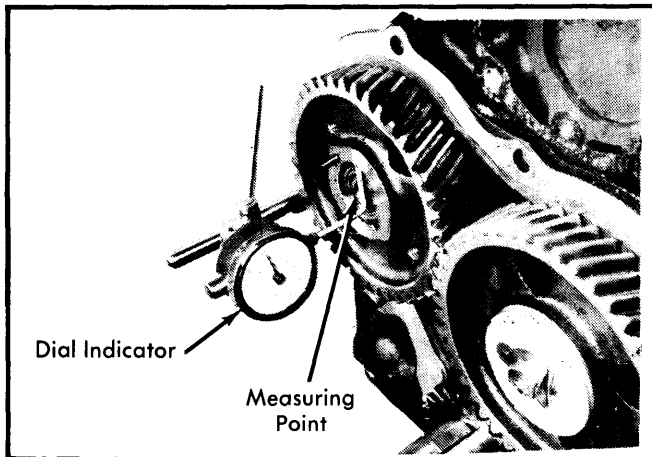
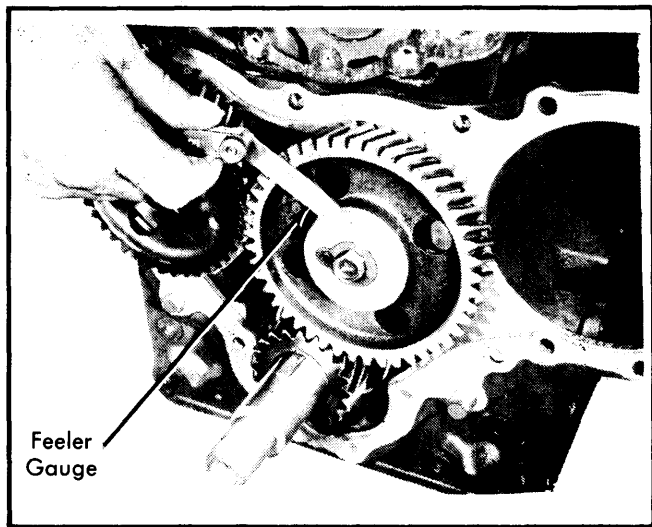

Fig. 12 Camshaft Gear End Play
Fig. 13 Checking Idler Gear End Play
2) Check camshaft end play with dial indicator. End play should be between .002-.008" (0.05-0.22 mm). Replace camshaft thrust plate if end play is excessive. See Fig. 12. Check idler gear end play with a feeler gauge between gear and thrust plate. End play is .002-.006" (0.05-0.15 mm). If measurement is excessive, replace thrust plate. See Fig. 13.